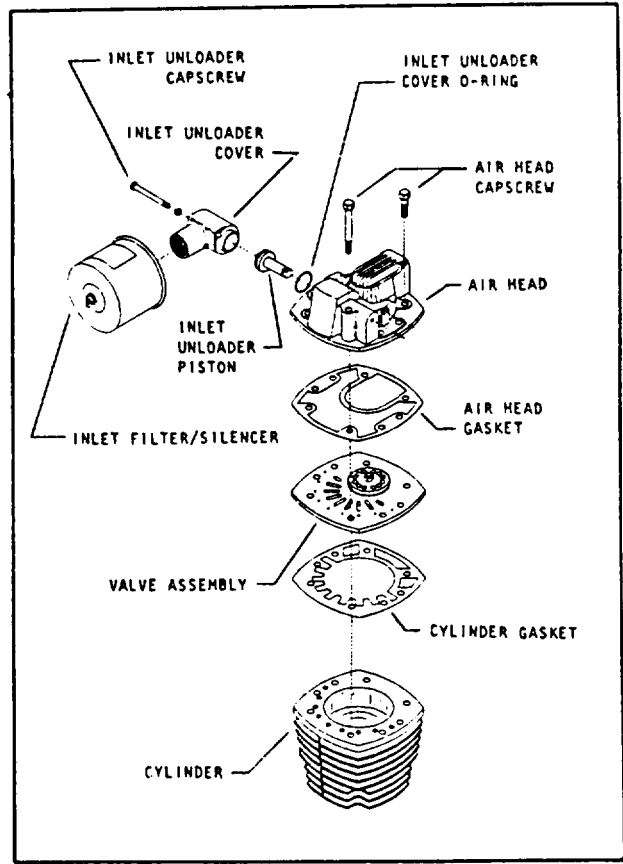

Figure 6-1. Valve and air head assembly.
2. Refer to Figure 6-1. Disconnect and remove the tubing to the inlet unloader(s). Remove the inlet filter/silencer from the inlet unloader cover.